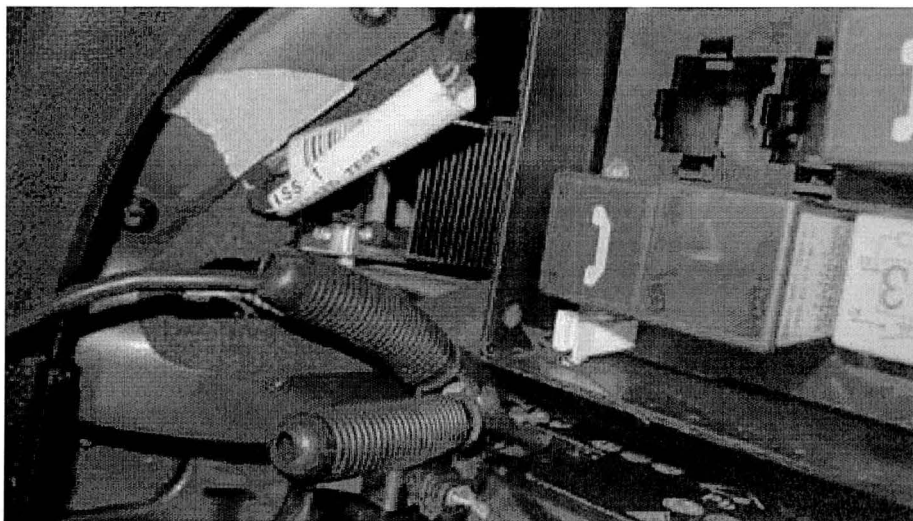

Figure 10
If the vehicle is not already listed as repaired in the 'Repair History' (ElsaPro), check the vehicle for the campaign identification mark, (see Figure 10), if this is not visible carry out the required work in accordance with these instructions
20. On completion apply a blue campaign completion mark (see Figure 10)
On completion apply a blue campaign completion mark to the boot mounted fuse box adjacent to the main system battery negative post (see Figure 10)